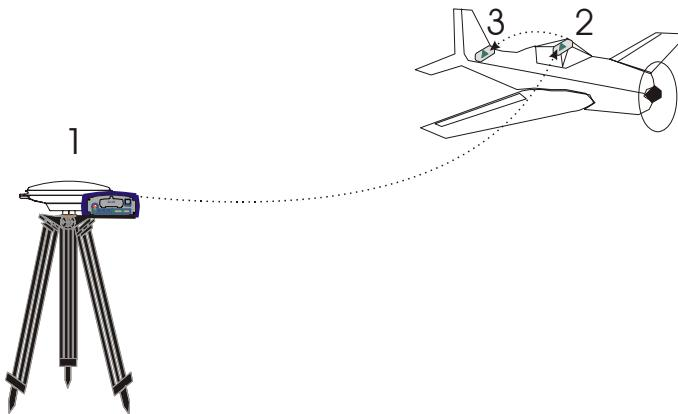

Figure 6: Moving Base Station ‘Daisy Chain’ Effect
- 1. Consider the case where there is a fixed base and an airplane flying with a moving base station near its front and a rover station at its tail end. See *Figure 6* on *Page 148*.